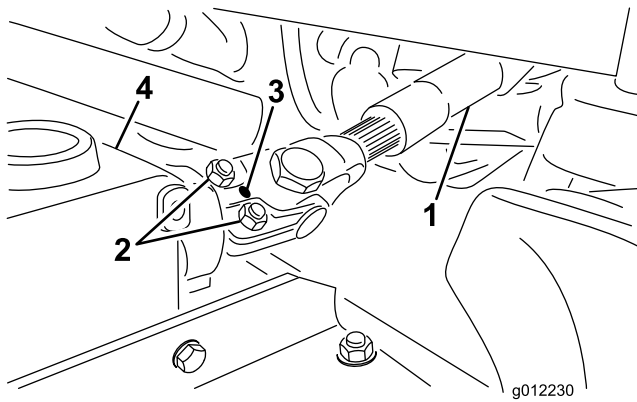

Figure 5
1. Slide the male PTO shaft into the female PTO shaft (Figure 5). Align the mounting holes in the gear case input shaft with the holes in the PTO shaft and slide them together.
2. Secure them with a roll pin (Figure 5).
3. Tighten the bolts and nuts (Figure 5).